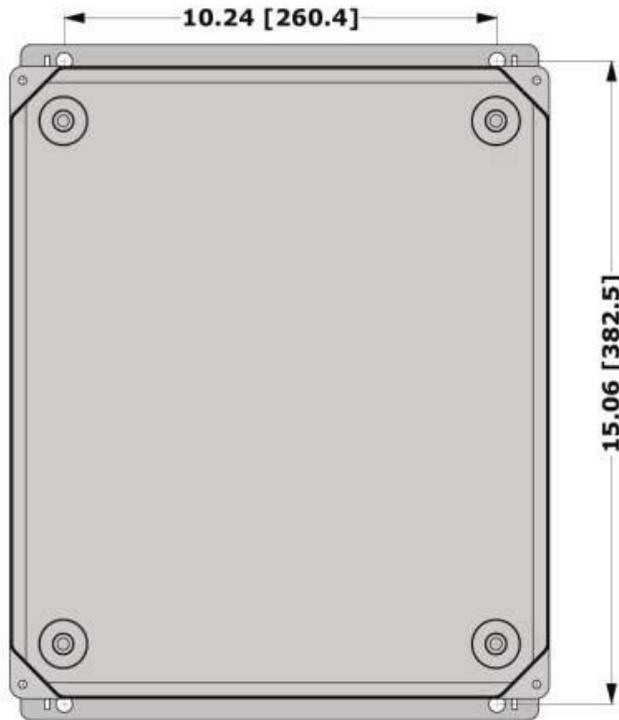

Figure 3-4 460L Mounting Hole Locations and Dimensions
- Figure 3-4 below shows the locations of the four mounting holes.